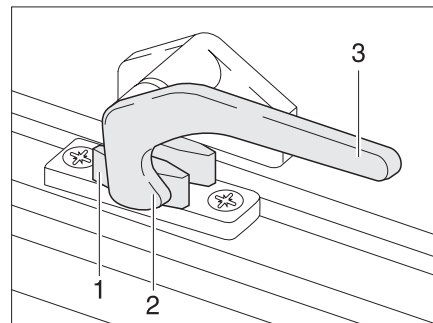

Fig. 33 Catch lever in "closed" position
- ▶ Turn the catch lever (Fig. 33,3) a quarter turn towards the centre of the window.
- ▶ Turn the catch lever (Fig. 33,3) a quarter turn towards the window frame. The locking catch (Fig. 33,2) is located on the inside of the window catch (Fig. 33,1).
- "Firmly closed" (Fig. 33)